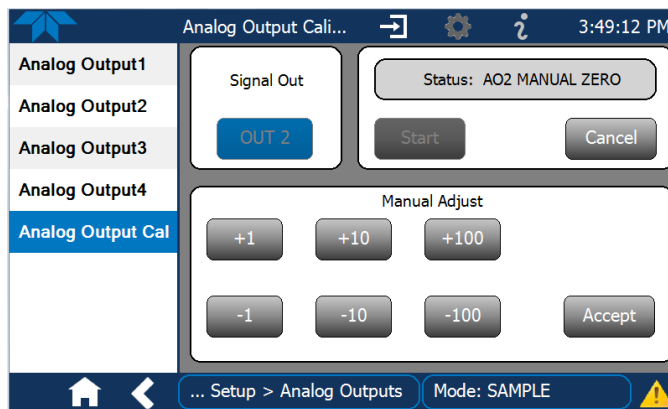
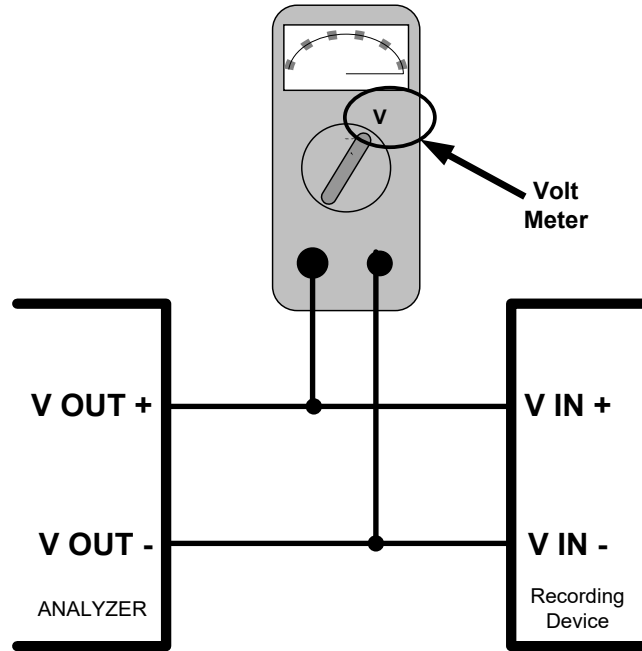

Figure 2-44. Analog Outputs Manual Calibration Screen (AOUT2 Example)
Figure 2-45. Setup for Checking / Calibrating DCV Analog Output Signal Levels
- MANUAL for individual calibration (Figure 2-44) of analog outputs where manual adjustments can be made (the only calibration type allowed when Current is selected for the Range). See Sections 2.5.8.1 and 2.5.8.2 .
It is possible to manually calibrate the voltages by using a voltmeter connected across the output terminals (Figure 2-45) and changing the output signal level in the Manual Adjust field of the Analog Outputs Calibration screen (Figure 2-44). Refer to Table 2-10 for voltage tolerances.